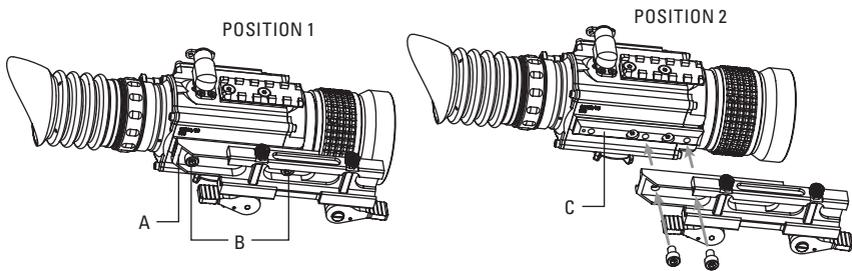

FIGURE 3-2. MOUNT ASSEMBLING
The Zeus comes fully-assembled with a Picatinny/Weaver mount (Figure 3-2).
1. Remove the two screws (B, Figure 3-2) that attach the mount (A, Figure 3-2) to the seating rail (C, Figure 3-2).